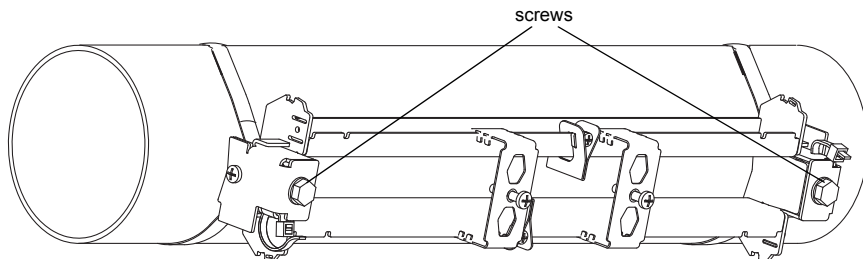

Fig. 7.27: Rail on the pipe
- Put the rail on the tension strap clamps (see Fig. 7.27).